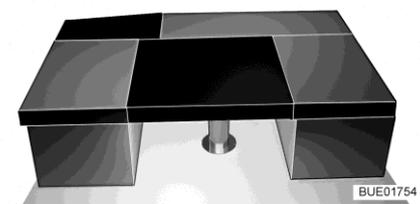

Fig. 156 After conversion
- Place the rectangular additional cushion on the table (between the seat cushions of the benches, see Fig. 156).